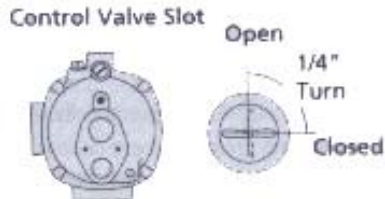

Figure 20 - Control Valve
4. Close the control valve (figure 20) and open a nearby faucet.